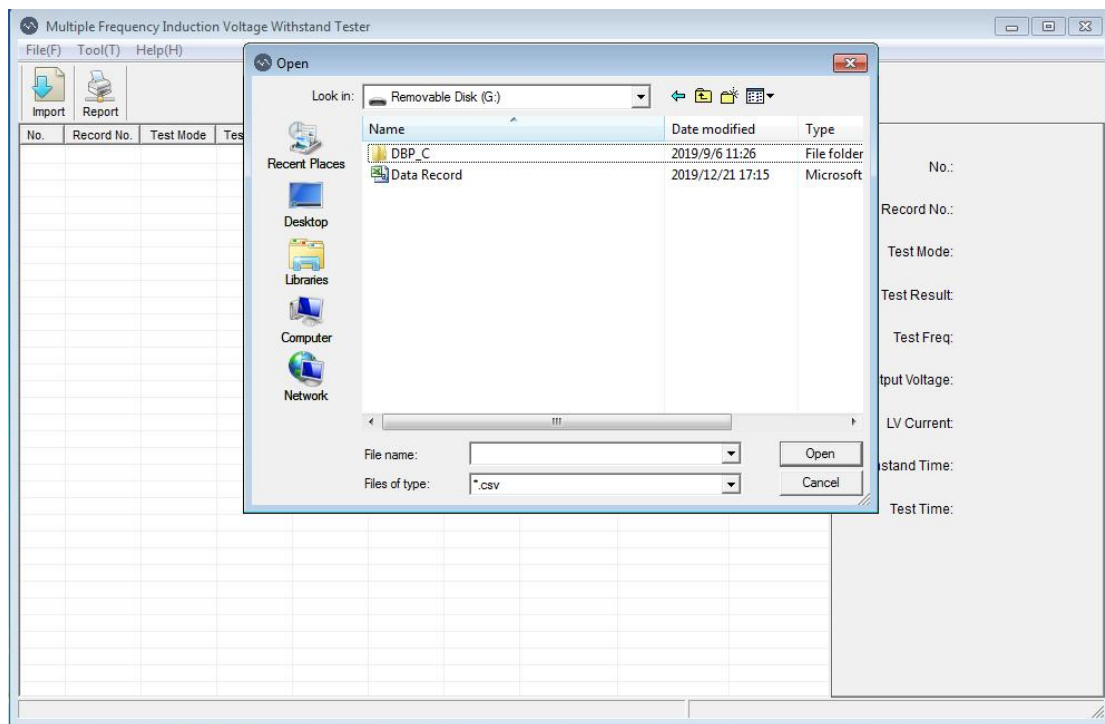

图24
2.Click the "Import" icon in the upper left corner to pop up as shown in Figure 24.